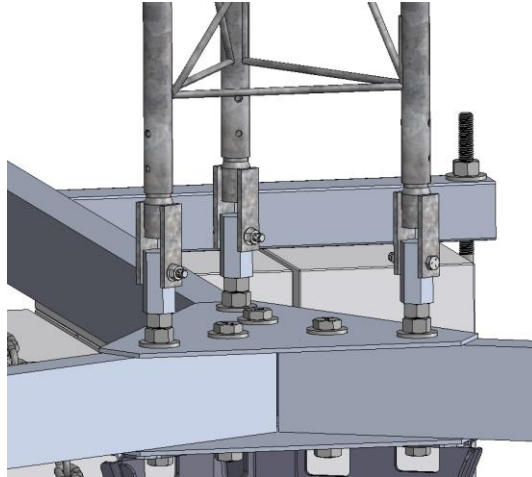

Figure 81 Final connection of Kuva Tower Section / hinged coupler after lift
3. Once the tower is raised, guide the center Rohn stub over the slotted threaded coupling block and secure with provided hardware as per Figure 81.